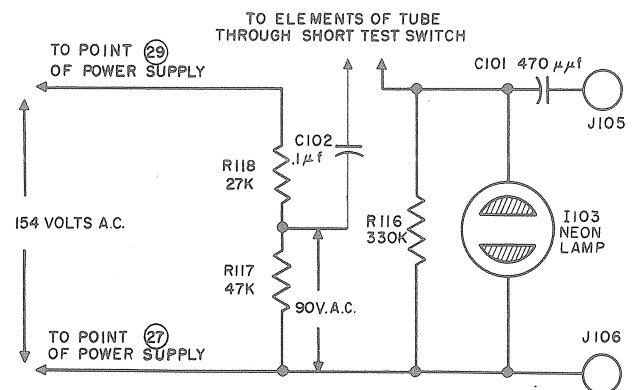

Figure 2-5.—Simplified Short Test Circuit.
5. SHORT TEST. (See Figure 2-5 & 2-16)
#### 6. NOISE TEST. (See Figure 2-5)